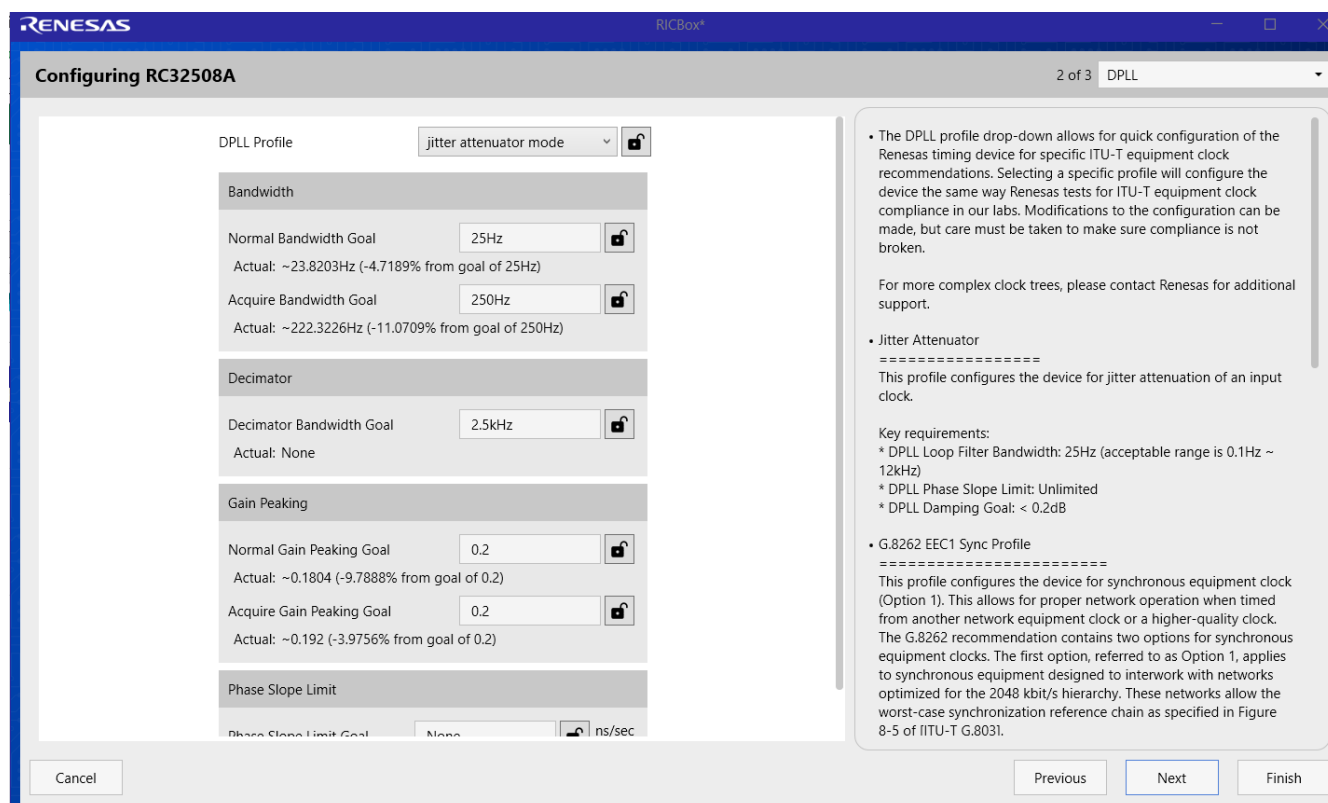
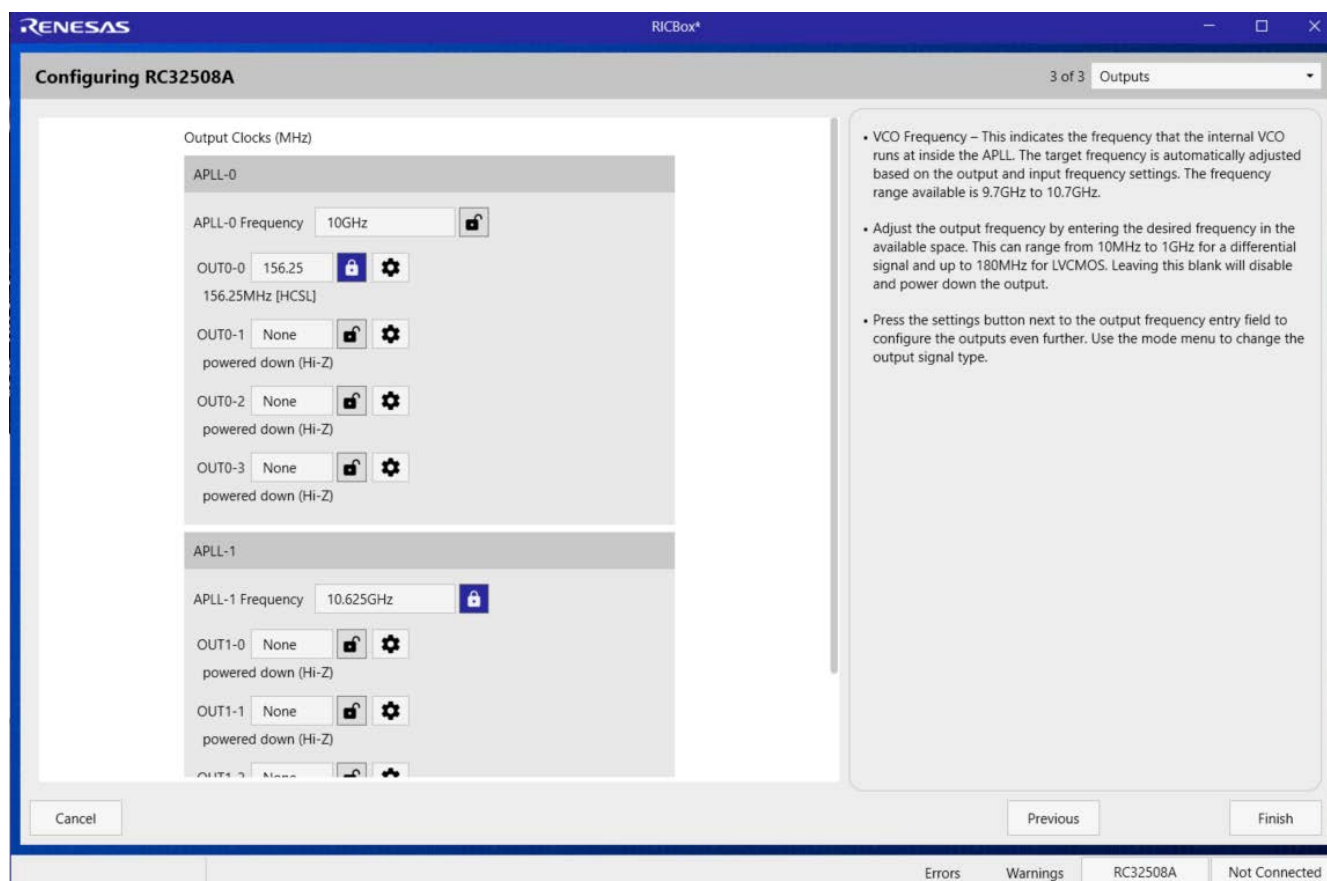

Figure 11. Jitter Attenuator Mode Settings Window
Figure 12. Output Settings Window
2. If **Jitter Attenuator** mode is selected, the jitter attenuator configuration window (screen 2 of 3) appears with a list of settings (see Figure 11). If **Synthesizer** mode is selected, the jitter attenuator window is skipped and the user is then directed to the **Output Clocks** window (screen 3 of 3) See Figure 12.
3. The **Output Clocks** window (screen 3 of 3) sets up the outputs (see Figure 12).